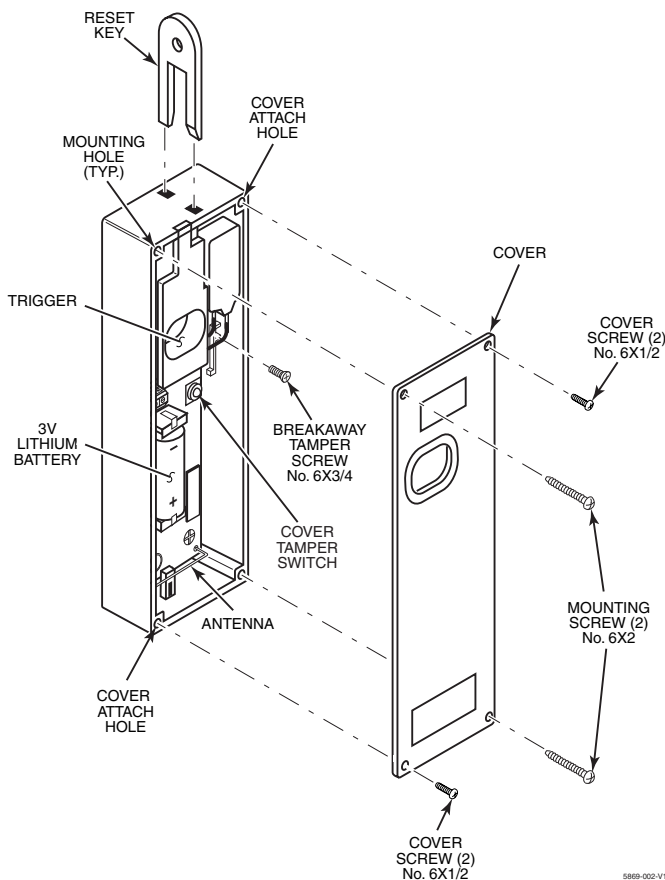

Figure 1. 5869 Holdup Switch/Transmitter Details
Once the 5869 trigger (Figure 1) is activated, the supplied reset key K4563 must be used to reset the device. The 5869 also contain tamper switches that are activated either when the cover is removed, or when the unit is forcibly removed from its installation location.
1. Install the battery into the battery holder observing correct polarity as shown in Figure 1.